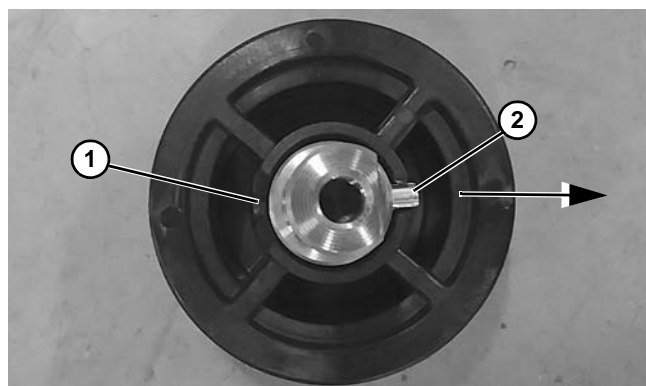

Figure 21
Be certain to drive pin out through slotted hole (Figure 21, item 1). DO NOT drive pin out on side of roller where pin (Figure 21, item 2) is sticking out.